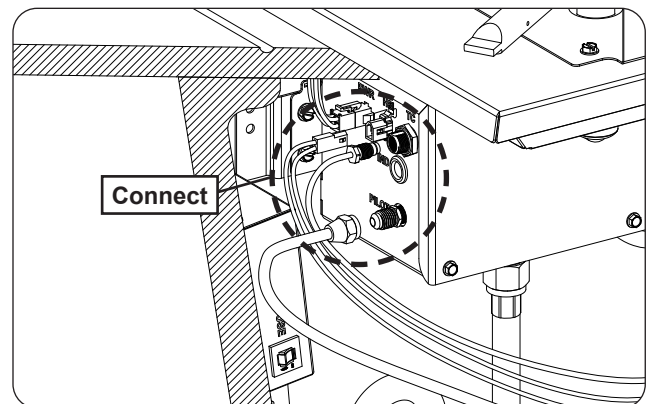

Fig. 36-3 Connect pilot line, thermocouple, and hot surface igniter
6. Connect the pilot line, thermocouple, and hot surface igniter (coming from the burner assembly) to the control box (see Fig. 36-3).